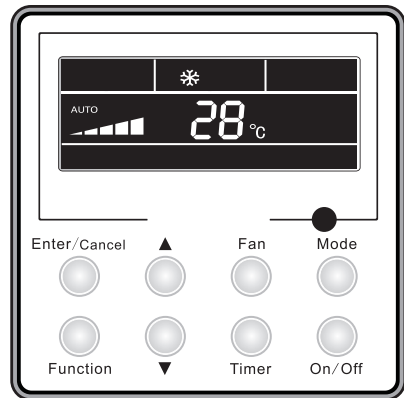

Fig.5 ON State of the Unit
- ② . The state shown in Fig.5 indicates the ON state of the unit after energization.